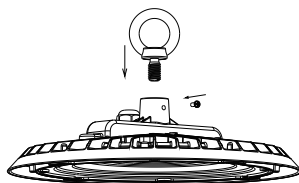

Figure 1
1. Please screw the lifting ring into the high bay light fixture, then tighten firmly.(Figure 1)